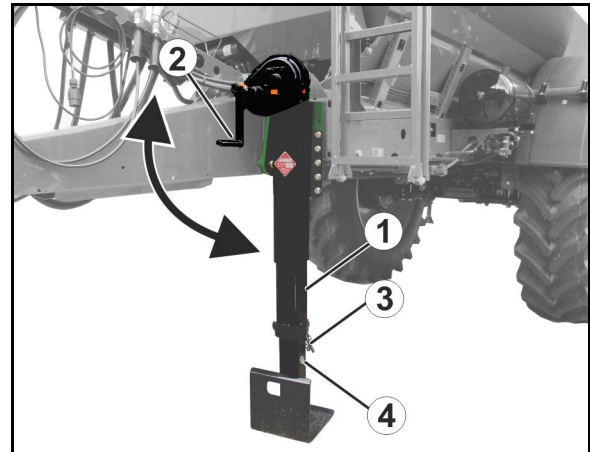

Fig. 42
1. Wind up the stand (Fig. 42/1) to the limit stop using the hand crank (Fig. 42/2).
2. Pull the pins (Fig. 42/3) out of the stand.
4. Insert the pins in the lower hole (Fig. 42/4) and secure them.
1. Hold the inside of the stand steady and pull the pins (Fig. 42/3) out of the stand.
4. Wind down the stand (Fig. 42/1) to the limit stop using the hand crank (Fig. 42/2) until the load is relieved from the yoke bar.